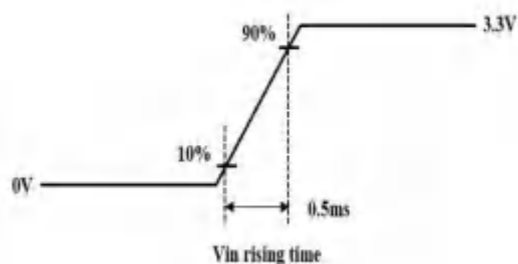

Figure 3.1. Inrush Measure Condition
3. Measure condition (Figure 3.1)